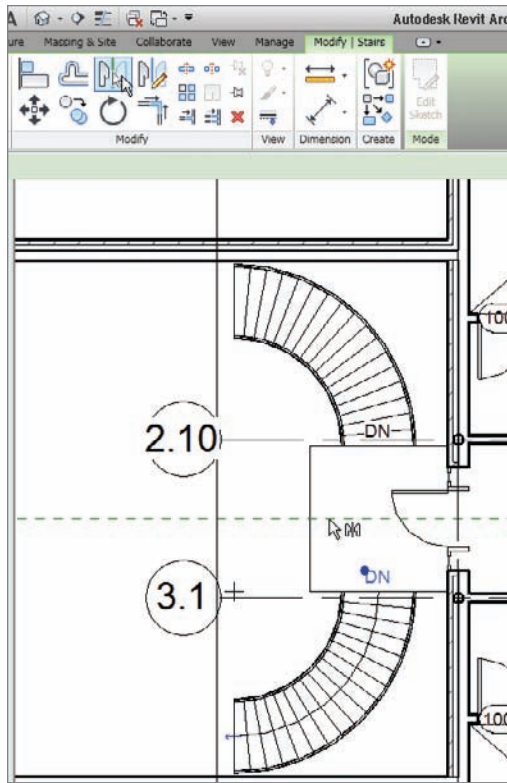

FIGURE 10.50 The mirrored stairs
3. On the Modify | Multi-Select tab, click the Mirror > Pick Mirror Axis button, as shown in Figure 10.50.
Your stairs are now mirrored to the other side of the landing, as shown in Figure 10.50.